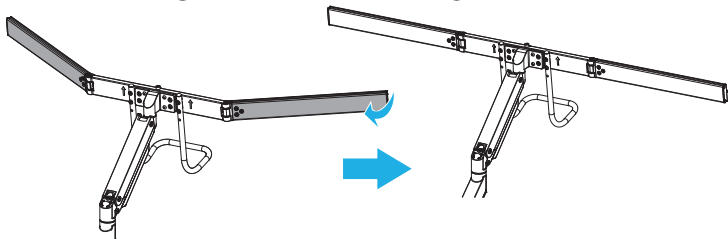

Figure 17
6. Straighten the **Crossbar, Centre** by folding the **Crossbar, Left** and **Right** towards the back. (Figure 17)